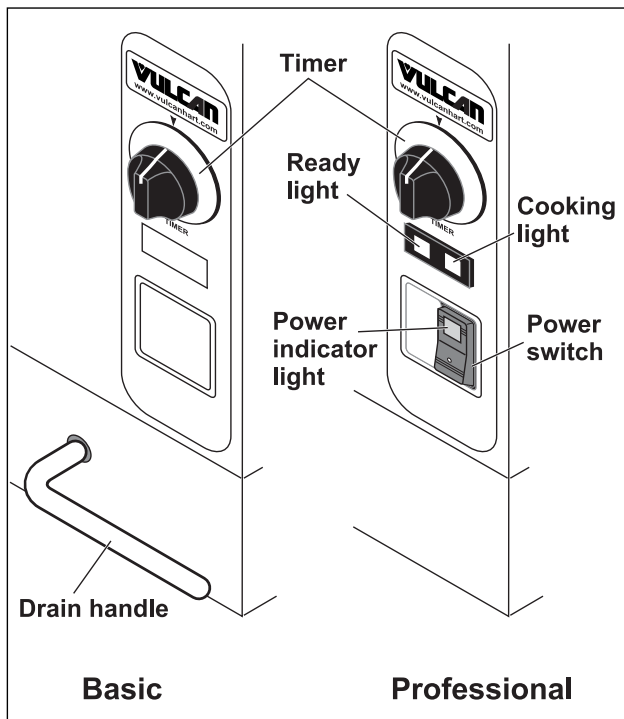

Figure 3
**Note:** Controls for the Basic and Professional models are shown in Figure 3.